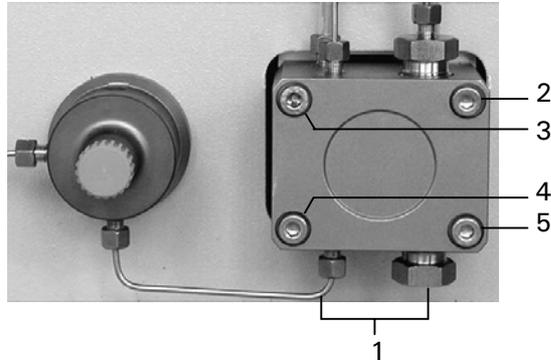

FIGURE 6-4. Disassembly of the Pump Head
- a) Remove the inlet and the connecting capillary (FIGURE 6-4).
- b) Loosen two diagonally opposed screws (e.g. screws '2' and '4' in FIGURE 6-4) by a quarter turn at a time and remove the screws.
- c) Carefully loosen the two remaining screws (e.g. screws '3' and '5' in FIGURE 6-4), alternating from one to the other, approximately half a turn at a time and remove the screws.